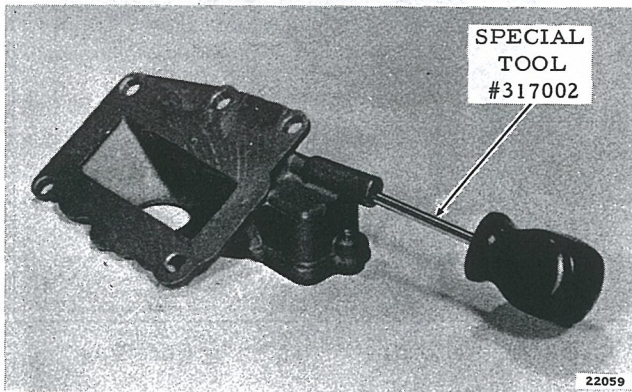

Figure 3-8. Removing Fixed Jet
e. Remove fixed high-speed jet (orifice plug). To prevent damage to threads in float bowl casting, use fixed jet screwdriver (Special Tool #317002). See Figure 3-8.